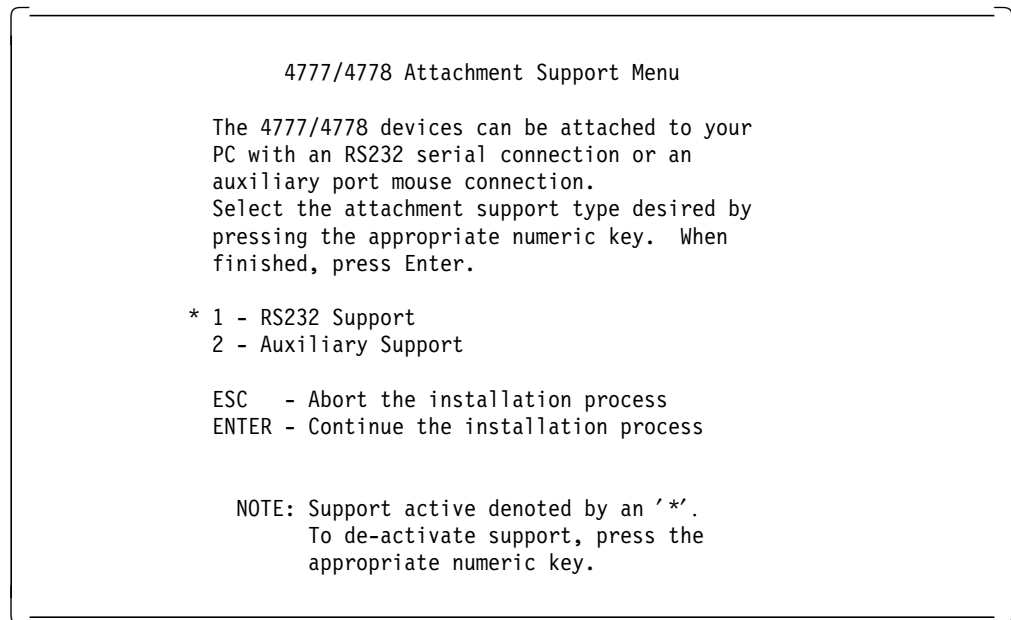
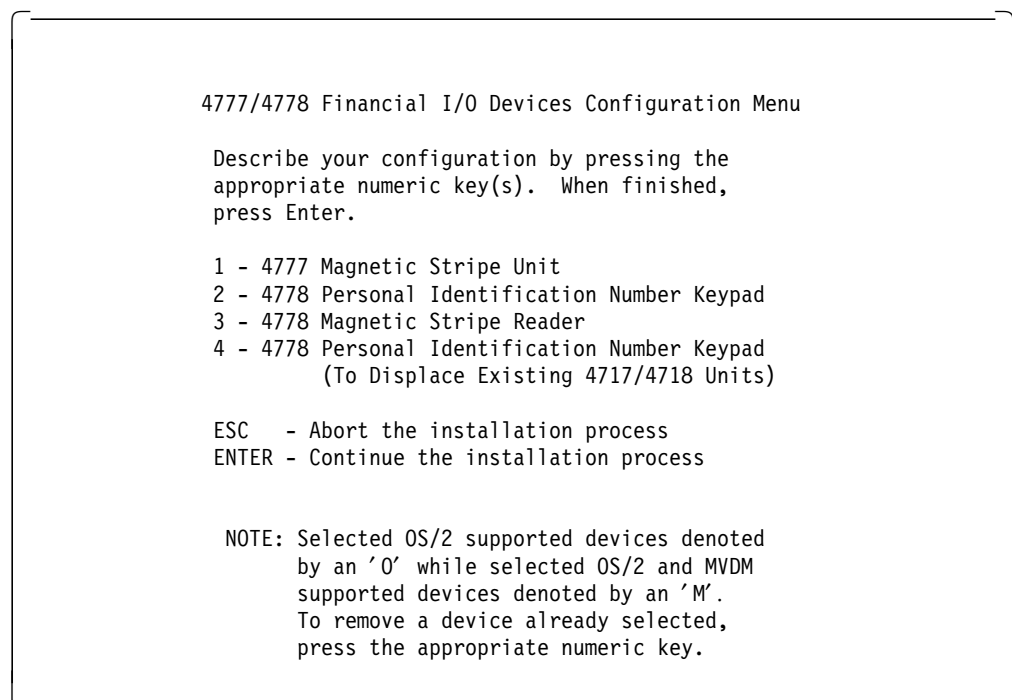
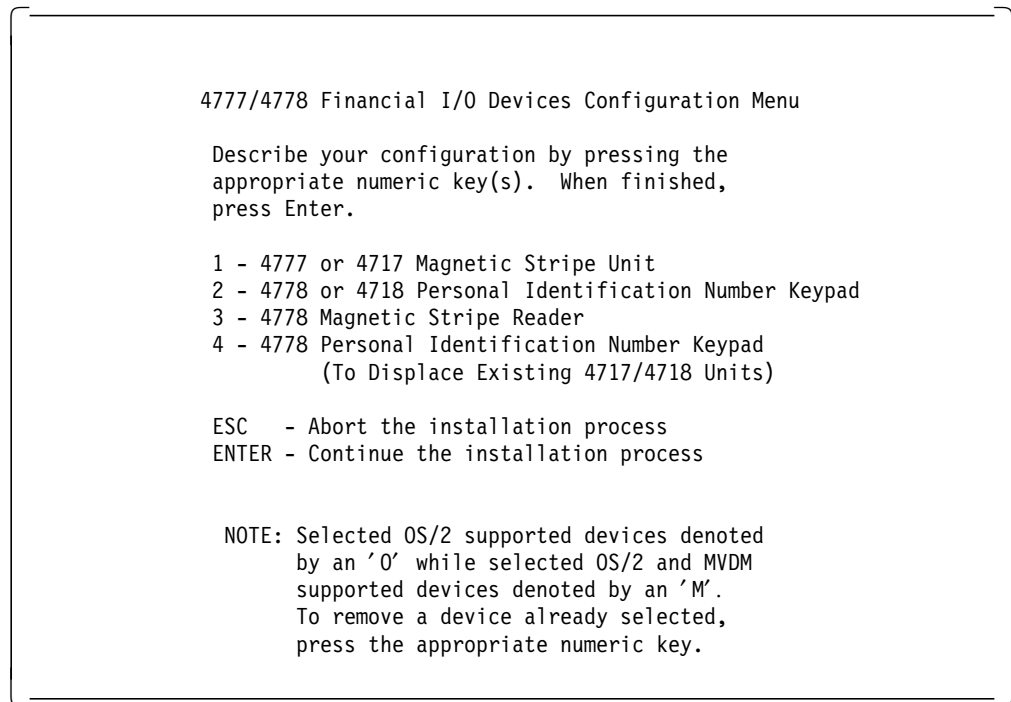

Figure 62. 4777/4778 Attachment Support Menu
Figure 63. 4777/4778 Financial I/O Devices Configuration Menu
Figure 68. 4777/4778 Financial I/O Devices Configuration Menu
As shown in Figure 62, the 4777 or 4778 devices can be either connected to a serial (RS232) port or to the mouse (auxiliary) port of the workstation.
1. Assuming that you selected option 1 on Figure 62 then Figure 63 will be presented.
As shown in Figure 63, you need to select the desired option:
1. Assuming that you selected option 2 on Figure 62 on page 117 then Figure 68 on page 121 will be presented.
As shown in Figure 68, you need to select the desired option: